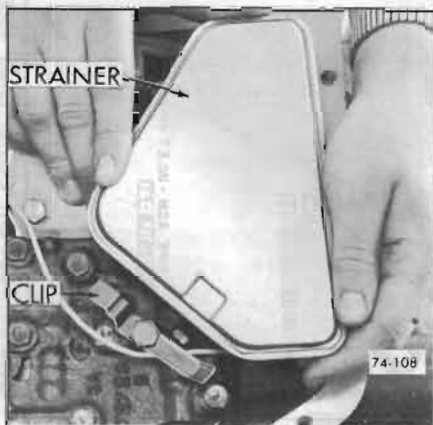

Figure 74-105
1. Remove oil strainer assembly. See Figure 74-105.